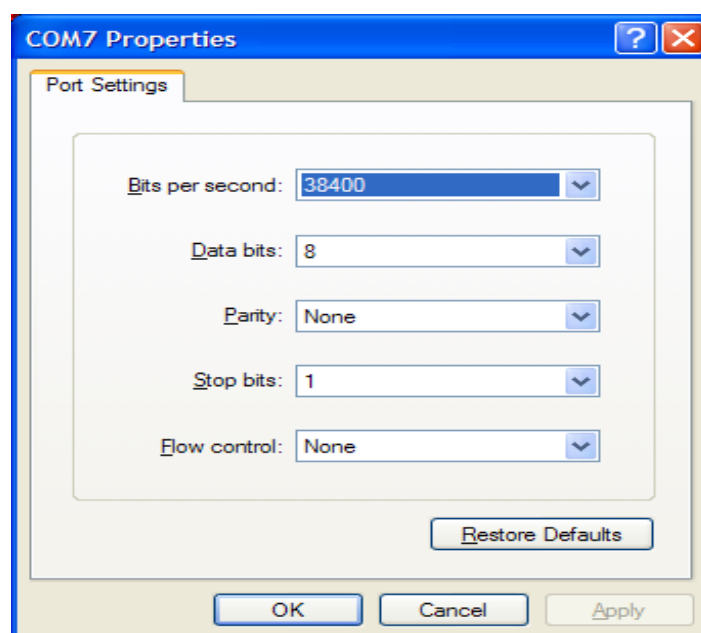

Figure 8-4. Default SMAC RS-232 Settings
5. Use a PC terminal communications program, such as Hyper Terminal, and set the correct baud rate, data bits, parity, COM port, and flow control. Figure 8-4 shows the default MC1322x SMAC RS232 settings.